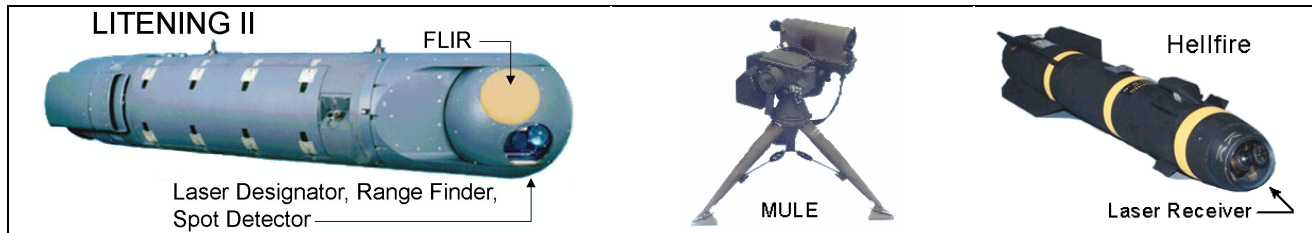

**Figure 24 – Shadows in an urban area**
- c. Illumination programs do not account for urban areas in their calculations. Refer to figure 24. Shadowing from obstructions and buildings can significantly alter the target/background scene. As stated before, the more you know about a target area, the better your support can be.